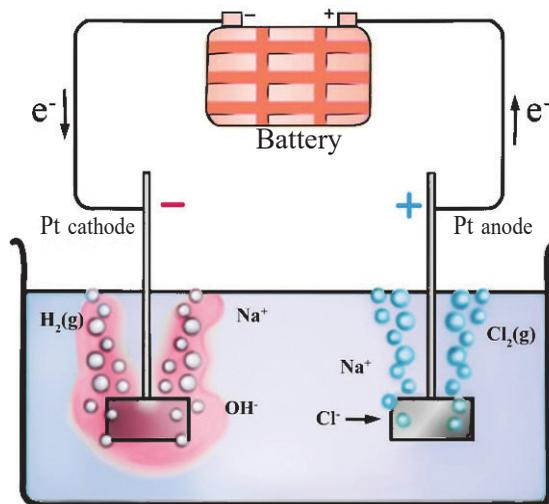

Fig. 5.9
Examine Figure 5.9 representing the electrolysis of aqueous sodium chloride solution.
1. H_2 gas is liberated at the cathode. If phenolphthalein indicator is present in the solution, the solution around the cathode (Figure 5.9) turns pink. That is, the solution becomes basic in nature.